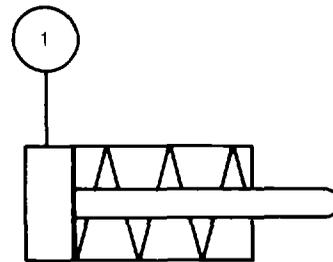

Figure 89 Test Connections
- a. Connect the cylinder to the test rig as shown in Fig 89.